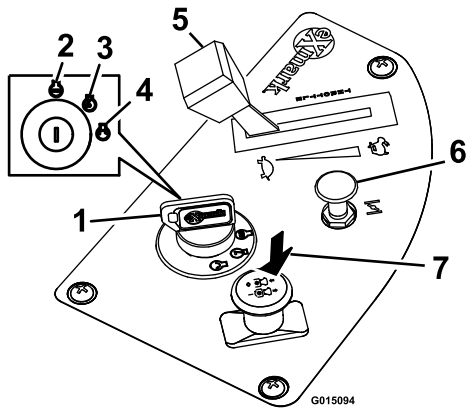

Figure 8
2. Disengage the blades by moving the blade control switch to Off (Figure 8).
3. Pull up on the choke control to engage the choke before starting a cold engine (Figure 8).
4. Turn the ignition key to Start to energize the starter. When the engine starts, release the key (Figure 8).
Set throttle to midway position. Push the blade control switch to Off to disengage the blades (Figure 8).